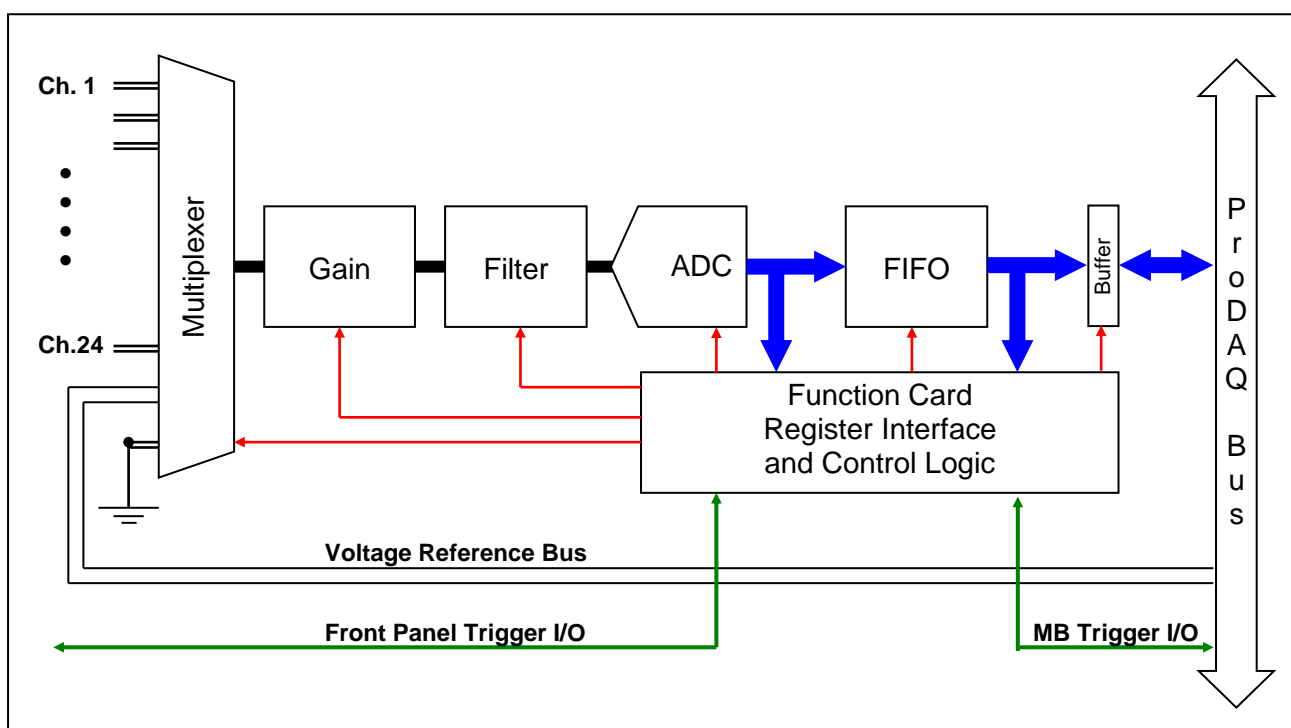

Figure 3 - ProDAQ 3411 Block Diagram
- If you want to install a function card in the upper position of a stack without having a function card in the lower position, you need to mount both spacers (Fig. 3, Pos. 11) on each standoff. If the stack is already populated with a function card in the lower position, mount only the bigger spacer (Fig. 2, Pos. 8) onto each standoff.
The ProDAQ 3411 function card houses a 1:26 differential multiplexer, which is used to switch the signals from the 24 input channels and two internal channels to a gain and filter stage before converting them with a high-speed 16-bit Analog-to-Digital converter (see Figure 3 - ProDAQ 3411 Block Diagram).